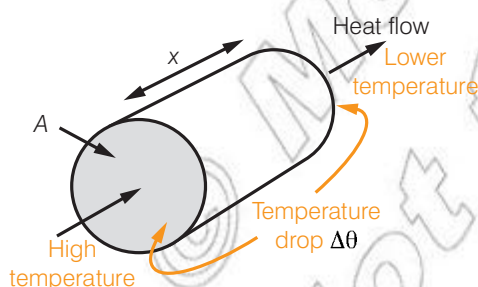

Figure 8.40 Thermal conductivity
- The temperature gradient along the bar – that is, how rapidly the temperature drops as you go along it. For a given conductor this takes into account both the temperature drop between its two ends and its total length. Using the notation in Figure 8.40, the temperature gradient will be $\Delta\theta / x$ (in K m^{-1}).